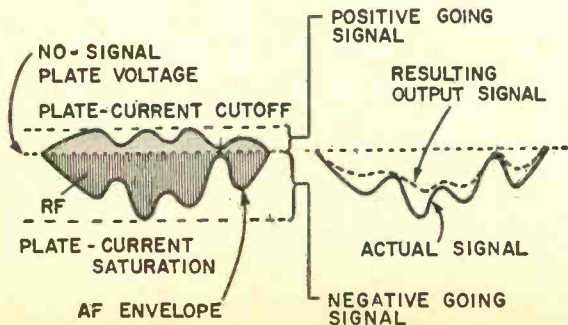

Fig. 9. Because tube does not cutoff sharply at the bias point some distortion is introduced in signal that rides between the bias point and current cutoff.
Fig. 2. Non-linear amplifier results in signal-stripping waveform shown. Average voltage below line must be subtracted from average voltage above zero line. The resulting signal distortion is indicated in Fig. 9.
rent—which is already low and which can't be reduced to less than zero regardless of the amplitude of the negative-going signal. Therefore, the output signal, shown in Fig. 9, is not a replica of the input signal (Fig. 4) and is inverted (positive signal at grid increases plate current and decreases plate voltage). Again, a capacitor (C) across the output filters out the remaining RF component. The average plate current through the headphones, therefore, follows the modulating signal.